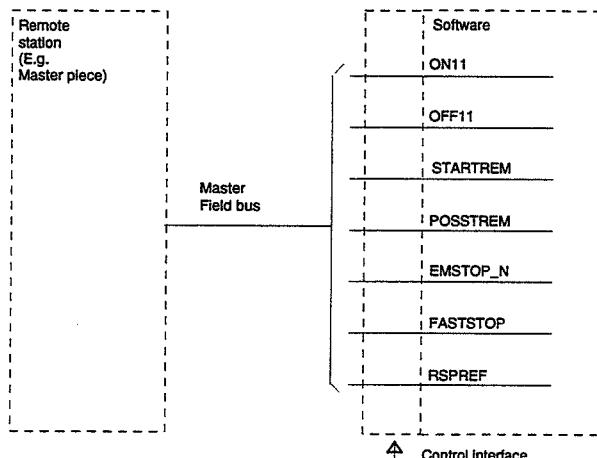

Fig. 2 Remote operating station
- a remote station e.g. central control room or higher level computer system. The communication between the remote station and the drive control is normally done with the master field bus, see fig 2.